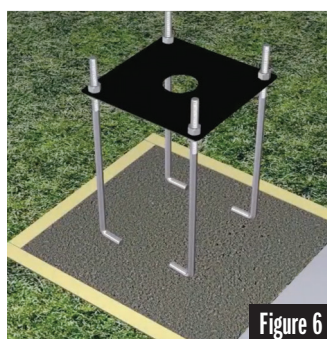

Figure 6
- Set the assembled Bolt Plate in the center of the 2' x 2' area parallel to the playing surface. See Figure 6.